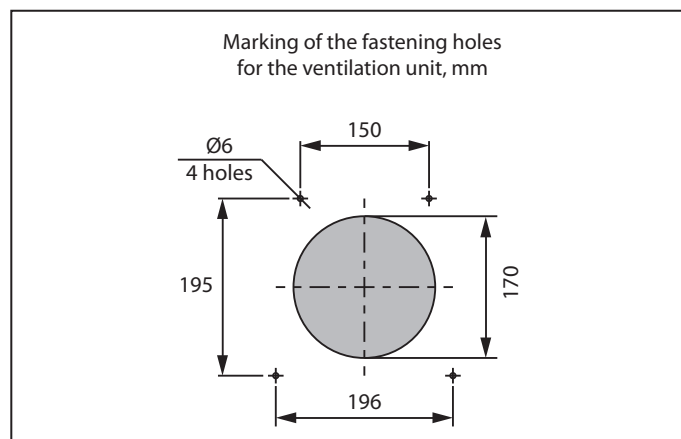

Fig. 10. Hole marking for the ventilation unit
6. Insert the dowels 5x25 in the wall and fix the ventilation unit to the wall with screws 3x25 from the delivery set, fig. 10.